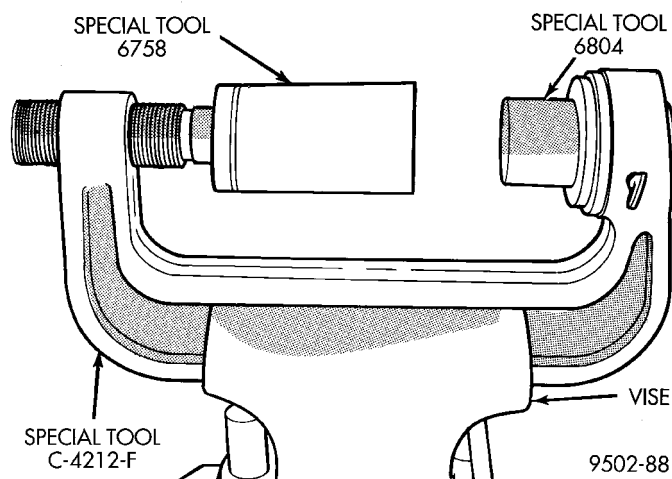

Fig. 71 Special Tools Assembled For Removing Front Bushing
(1) Remove the lower control arm assembly from the vehicle. See Lower Control Arm in the Removal And Installation Section in this group of the service manual for the required removal procedure.
(2) Mount Remover/Installer, Special Tool C-4212-F in a vise (Fig. 71). Install Bushing Remover, Special Tool 6804 and Bushing Receiver, Special Tool 6758 on Special Tool C-4212-F (Fig. 71).